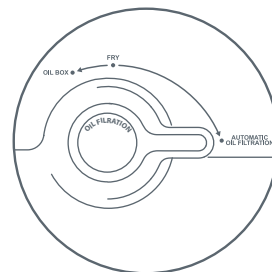

Fig. 12
- For filtration action, turn the button to the automatic oil filtration position – fig. 12.